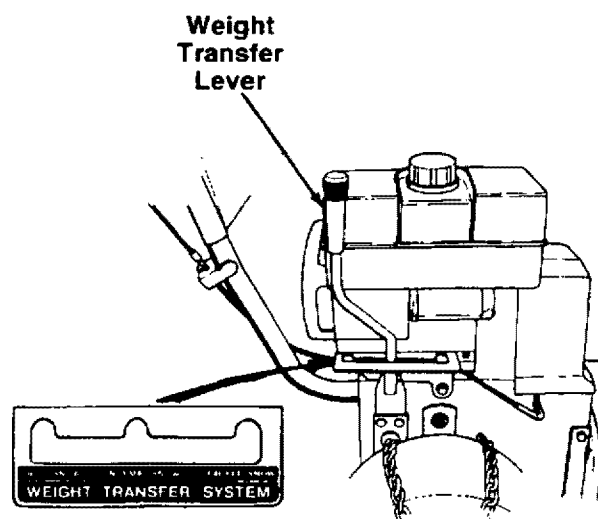

FIGURE 12.
**Weight Transfer Lever**—Located on the right side of the snow thrower. Move the lever away from the engine, then forward or backward to select one of three positions for operation. See figure 12.